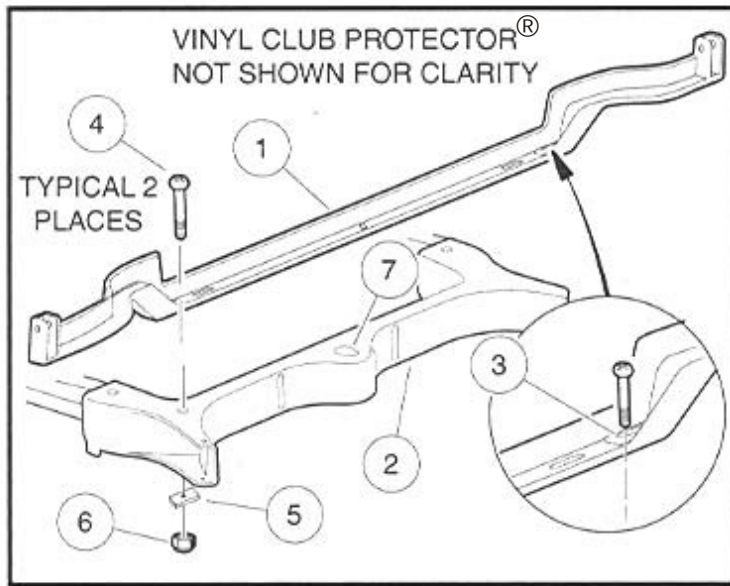

Figure 7 Secure Mounting Bracket to Bag Hoop
- 4.2. Locate the inside radius (3) of the outer two holes in the mounting bracket and drill two 9/32-inch holes through the bag hoop (Figure 7).